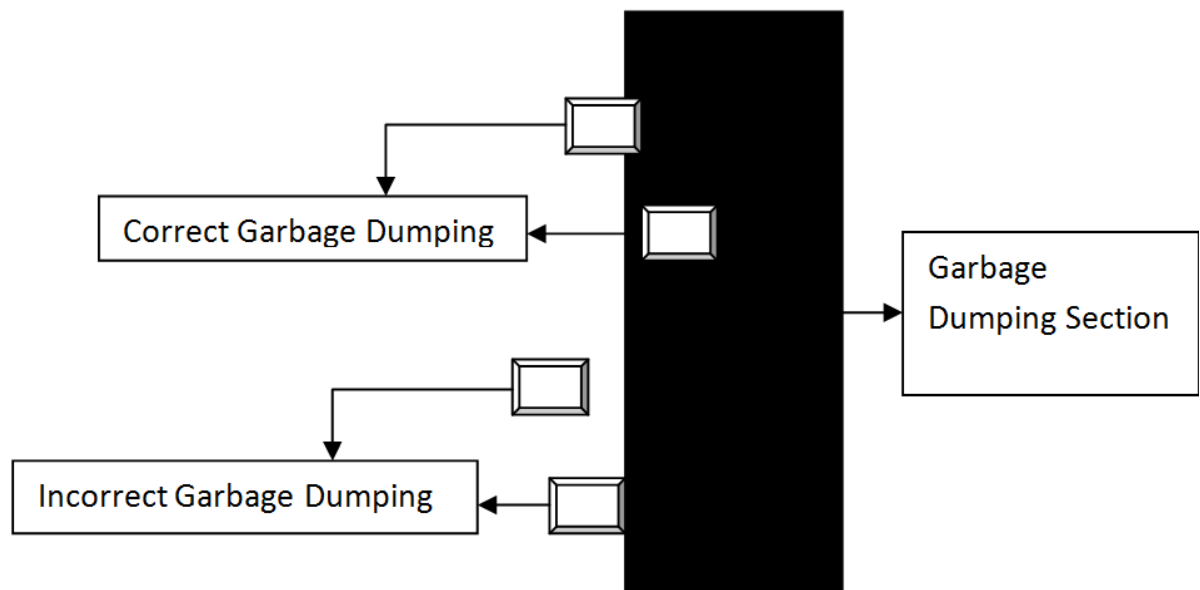

Figure 14: Garbage Dumping
- Garbage is dumped in the Garbage Dumping Section as shown in Figure 14.